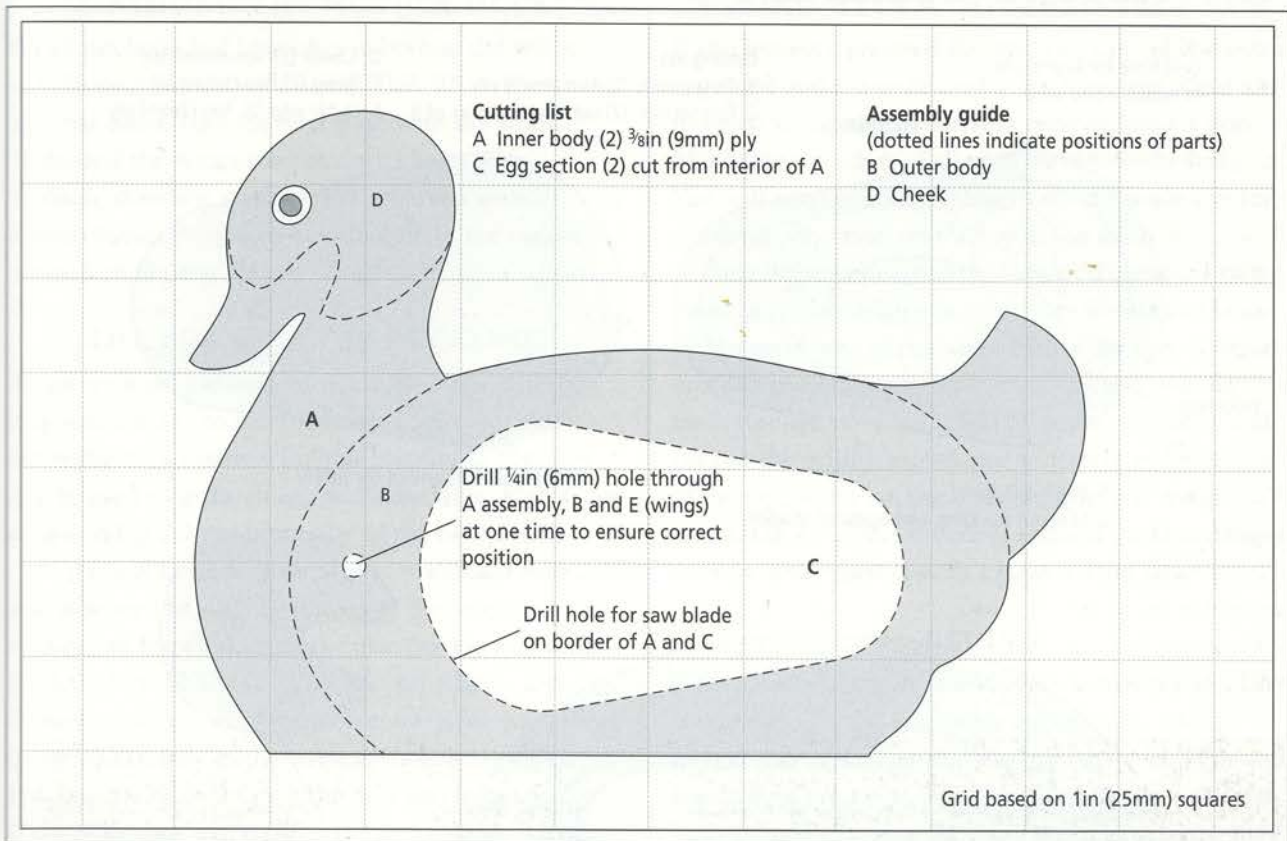
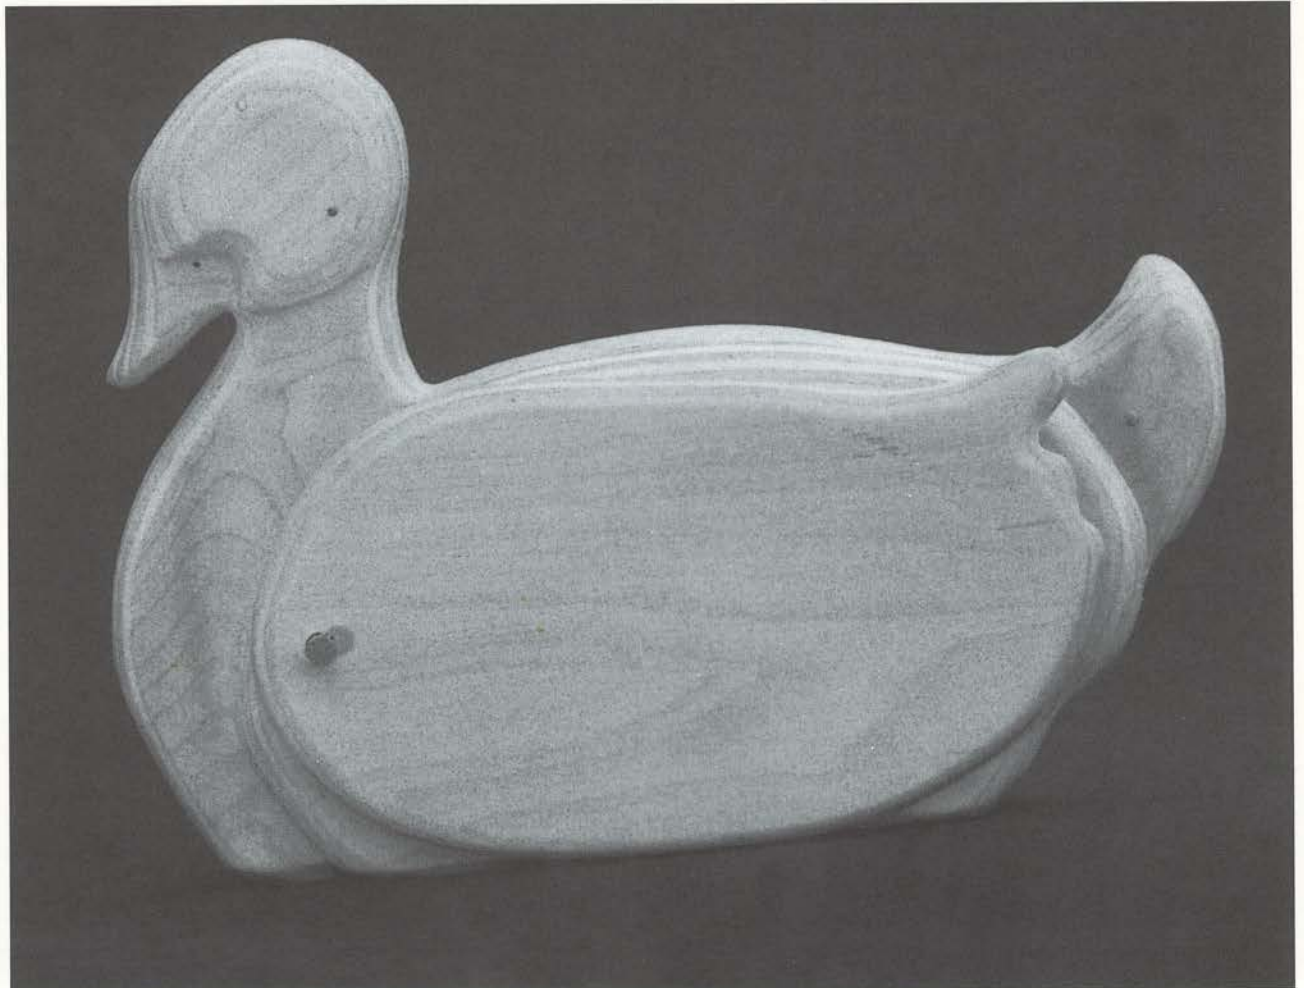

Fig 2.2 Cutting list for parts A and C. Assembly guide.
Fig 2.6 The contours of the wing (E) and the duck's body are rounded and smoothed with a rasp and sandpaper.
re-attach the blade to the saw frame (see pages 8 and 9 in the Toy Making Methods). Fig 2.2 shows where to drill the saw hole. Then proceed to cut out parts C.
Glue and pin together the two inner body parts (A). Make sure the bases are level and the outlines line up as evenly as possible. Keep the pins clear of the area where the hole will be drilled. See Fig 2.2 for the hole position. Set aside the parts A assembly until the glue has dried.
Glue and pin one part B and one cheek piece (D) to each side of part A in the positions shown in Fig 2.2. Again, refer to Figs 2.4 and 2.5 for examples of the correct placement of parts before gluing. Make sure that the egg-shaped cut-outs on parts A and B are lined up and that their bases are level.
Don't forget the interior egg shape. Use the rasp to smooth any edges that may be uneven. With rasp in hand, it is a good time to take up parts E, the wings. Round and smooth the contours of the wings. Fig 2.6 shows a shaped wing. After rasping, remove all rasp marks by sanding, first with coarse sandpaper, then with medium, and then fine sandpaper.
Drill the 1/4in (6mm) holes in the body and wings in the positions shown in Figs 2.2 and 2.6. Insert a metal dowel through the hole in the body and place a wing on each end of the dowel as shown in Fig 2.6. Check that the wings raise clear of the hole into which the egg fits. Remove the wings from the metal dowel and then the dowel from the hole. Set the dowel aside for the time being.